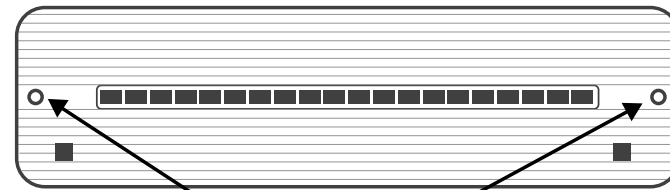

Fig 1
3. Remove two screws from the top of fitting (see Fig 1) to remove diffuser